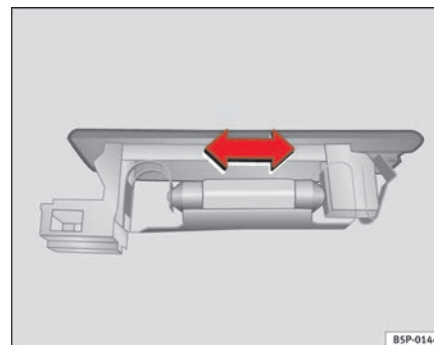

Fig. 150 Luggage compartment light
- Press the lamp sideways and remove from its housing ⇒ fig. 150. ■